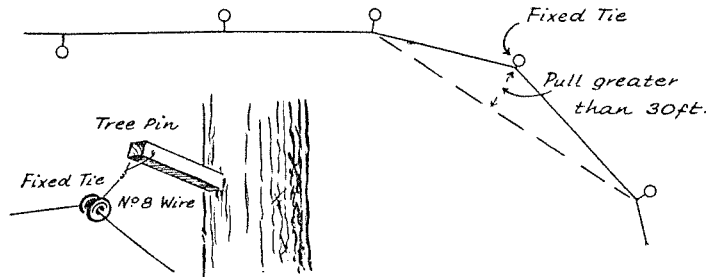

Fig. 3b.
29. If a sharp angle is necessary at one tie tree, a "fixed" tie should be made instead of the usual slack tie, to prevent the line pulling away from the tree under excessive strain. (See Fig. 3b.)